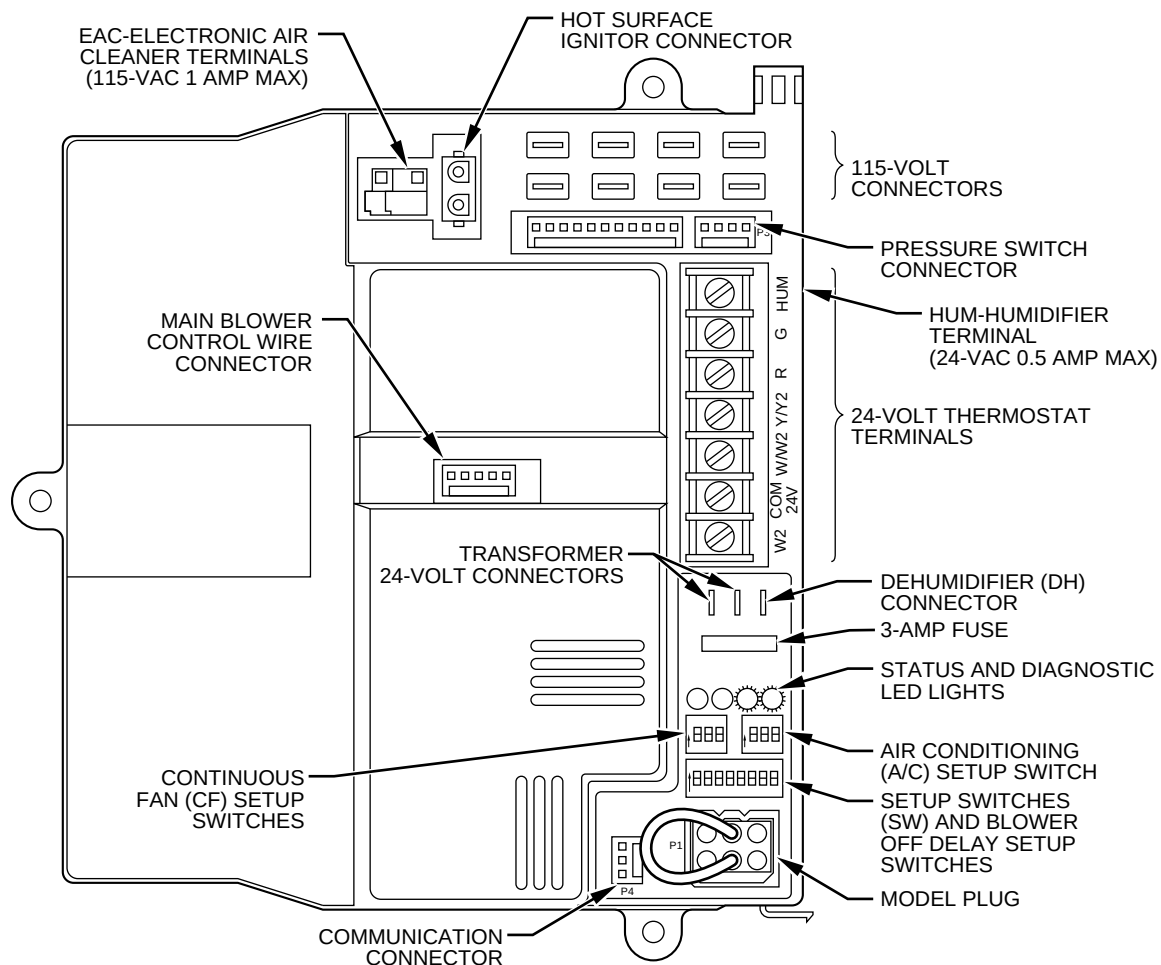

Fig. 25—Control Center
of field wiring. (See Fig. 23.) The 24-v circuit contains a 3-amp, automotive-type fuse located on control center. (See Fig. 25.) Any electrical shorts of 24-v wiring during installation, service, or maintenance may cause fuse to blow. If fuse replacement is required, use only a fuse of identical size (3 amp).
- a. Two extension leads are connected to the control center EAC terminals to assist field installation of an EAC. (See Fig 25.) To use these leads, precede with the following:
A 1/4-in. male quick-connect terminal is provided on control center to attach a normally open (N/O) humidistat contact when dehumidification is desired. (See Fig. 25.) Connect humidistat to thermostat R terminal and DH terminal on control center. A 15 percent reduction of cooling airflow or constant fan airflow will occur when DH terminal is energized and a single- or 2-speed "call for cooling" is received.